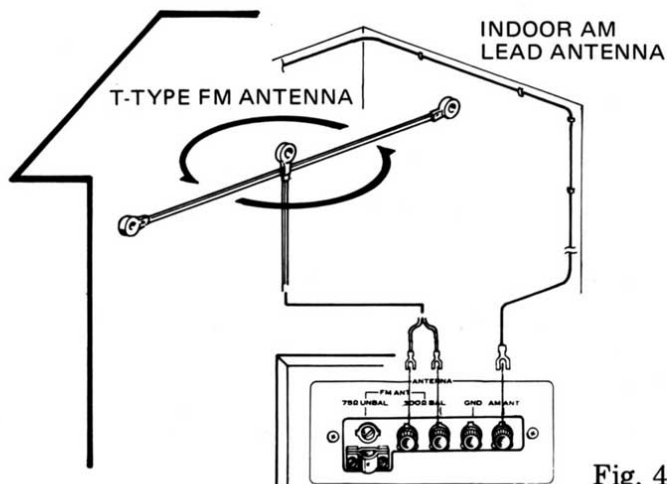

Fig. 4
- Use vinyl-sheathed wire as shown in Fig. 4 for the indoor lead antenna.